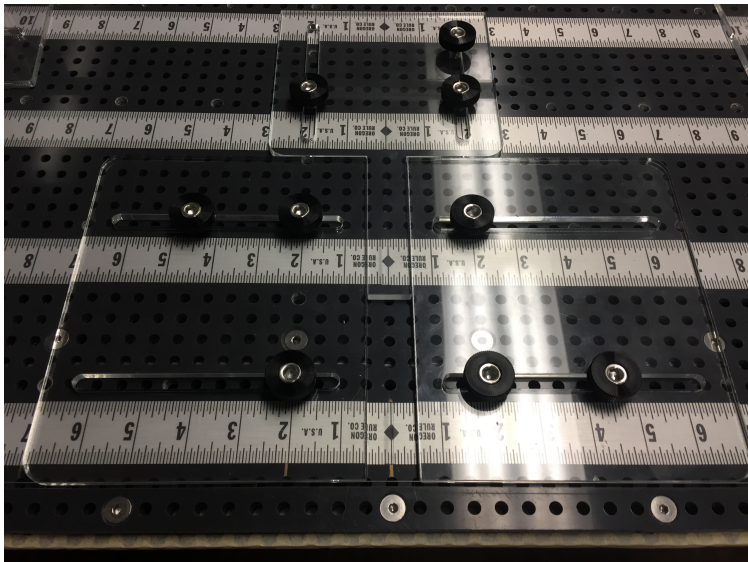

Figure 2.6: Secure the Foam Step 6
8. To secure very small pieces of foam, one of the acrylic plates can be flipped as shown in fig 2.6 below.